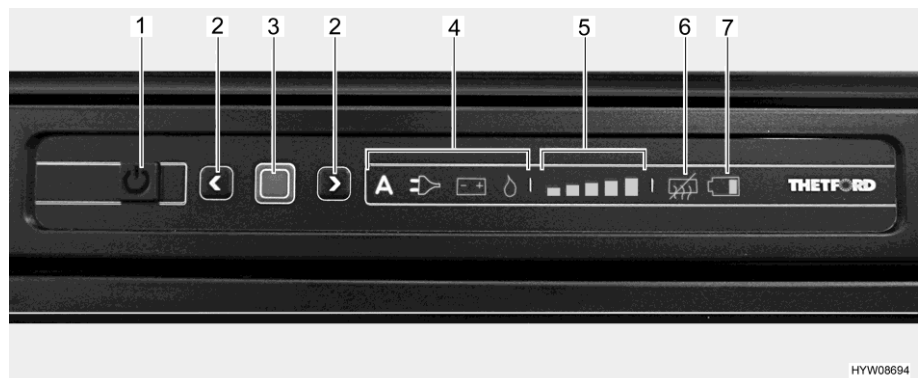

Fig. 242 LED operating panel (Thetford refrigerator)
- Press and hold the On/Off button (Fig. 242,1) for 1 second. The button lights up green. To save energy, after approximately 10 seconds the display is dimmed.
- Press confirmation button (Fig. 242,3). The operating mode previously selected is displayed.
- Press and hold the confirmation button (Fig. 242,3) for about 2 seconds. The operating mode symbols flash.
- Manual power selection: use the arrow keys (Fig. 242,2) to select the desired energy source.
- Automatic power selection (only version with automatic power selection): use the arrow keys (Fig. 242,2) to select the operating mode "A".
- Confirm your selection with the confirmation button (Fig. 242,3).
- Press confirmation button (Fig. 242,3) again. The cooling level indicator (Fig. 242,5) flashes.
- To change the setting, press the arrow keys (Fig. 242,2) until the desired setting is displayed.
- Press and hold the On/Off button (Fig. 242,1) for about 2 seconds. All lights go out. Refrigerator is switched off.
After switching it on, the refrigerator automatically selects the previously selected thermostat position. This position can be adjusted manually by using the arrow keys (Fig. 242,2). It takes a few hours till the refrigerator reaches its normal operating temperature. When changing over to another operating mode, the thermostat setting is kept.